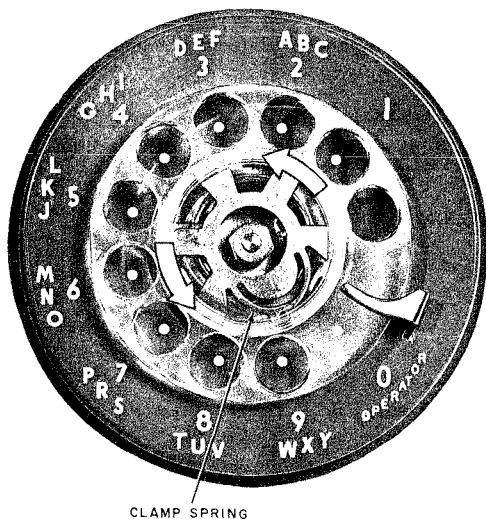

Fig. 5 — Replacing Plastic Fingerwheel
- (1) Place fingerwheel over clamp with "0" hole directly over digit 9, making sure fingerwheel depressions are properly positioned on prongs of clamp plate.
- (2) Rotate fingerwheel in counterclockwise direction until clamp spring snaps into notch on underside of fingerwheel (Fig. 5).